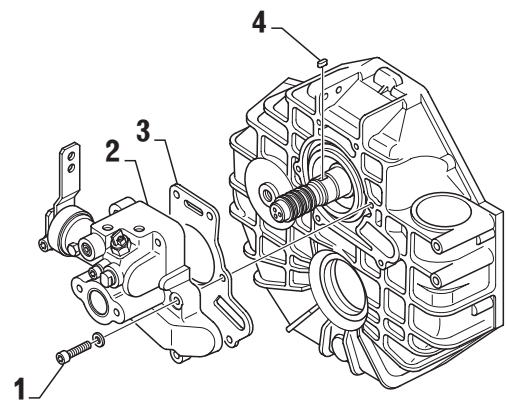

FIG. 5-1
Unscrew allen head bolts (item 1, Fig. 5-1)
Pull control block (item 2, Fig. 5-1) together with seal (item 3, Fig. 5-1) off the input shaft.
Remove key (item 4, Fig. 5-1) from input shaft (item 5, Fig. 5-1).